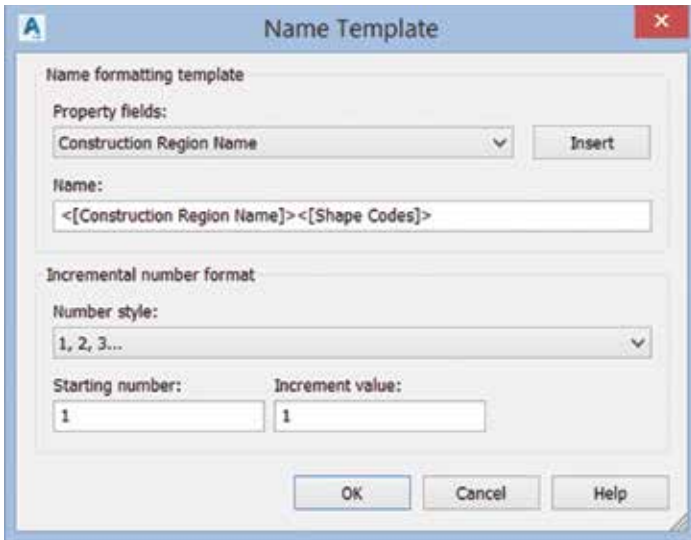

Figure 4: Name Template dialog box
- In the Name Template dialog box, do the following, as shown in Figure 4: